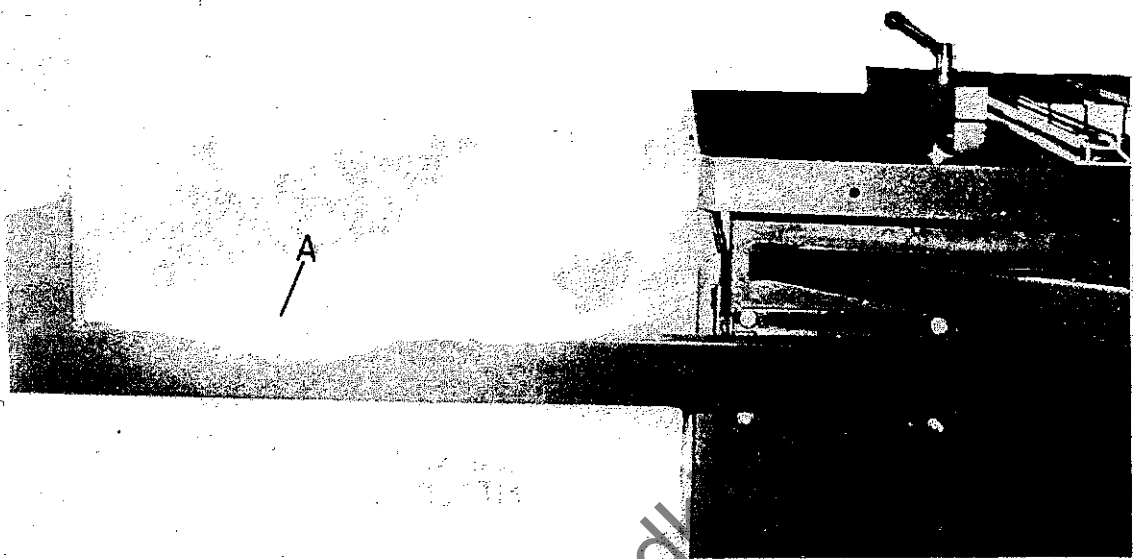

FIG. 1
- 1) Position outer arm "A" to rear of machine as shown in FIG.1.